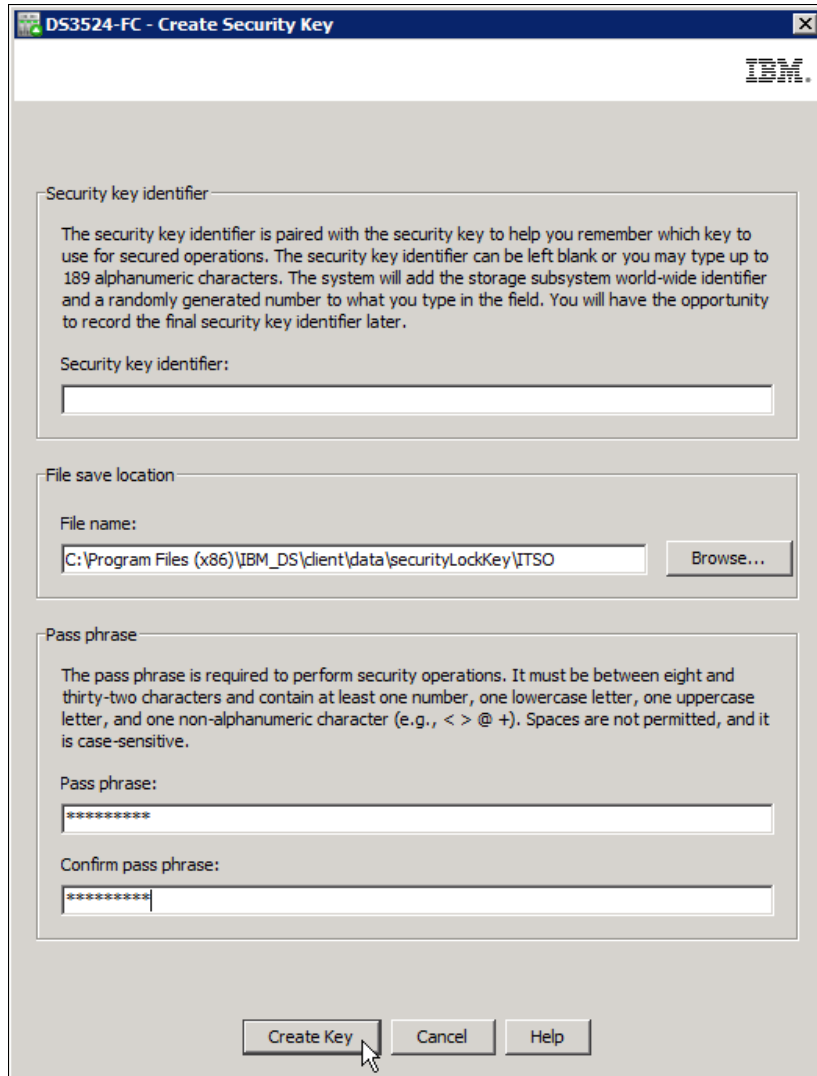

Figure 15-12 Requirements displayed for the security key creation
4. The window shown in Figure 15-12 on page 452 opens. Complete the fields, which includes a file name and pass phrase. The Security key identifier is optional. If nothing is entered the system will add the storage subsystem world wide identifier and a randomly generated number.